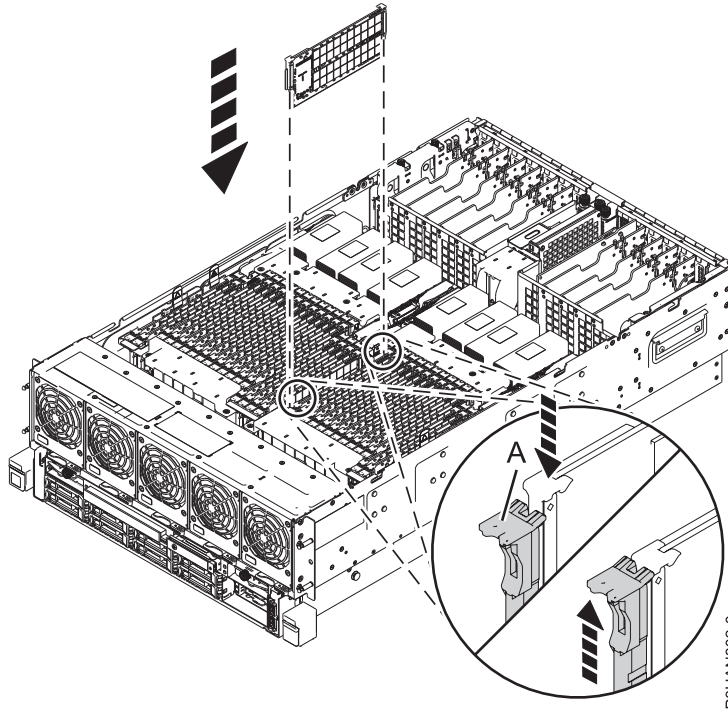

Figure 11. Replacing memory in the system
- b. Press the memory firmly into the slot until the locking tab (A) locks in place. See Figure 11 on page 16.